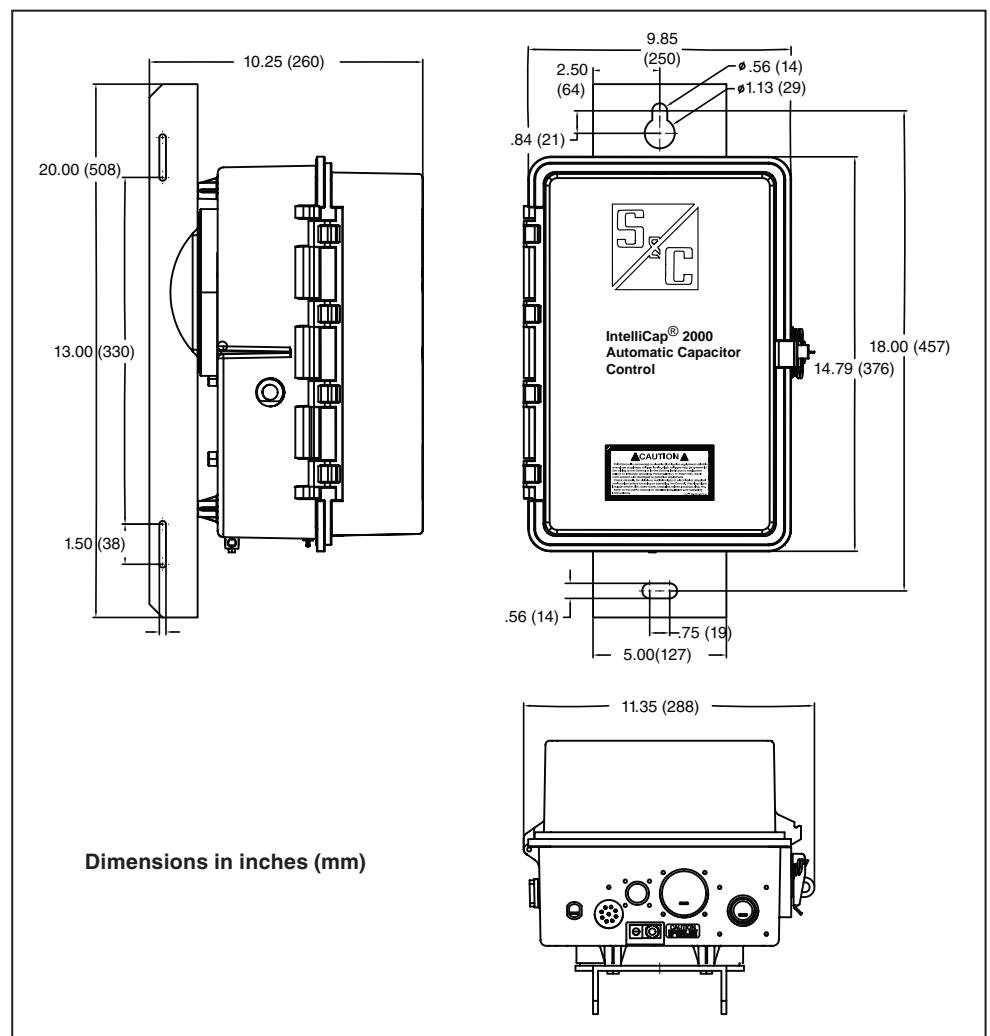

Figure 14. Enclosure dimensions with pole-mount bracket.
- STEP 1.** Pass a stainless steel strap or clamp through the two upper mounting slots in the bracket. Pass a second strap through the two lower mounting slots. See Figure 14 on page 17.